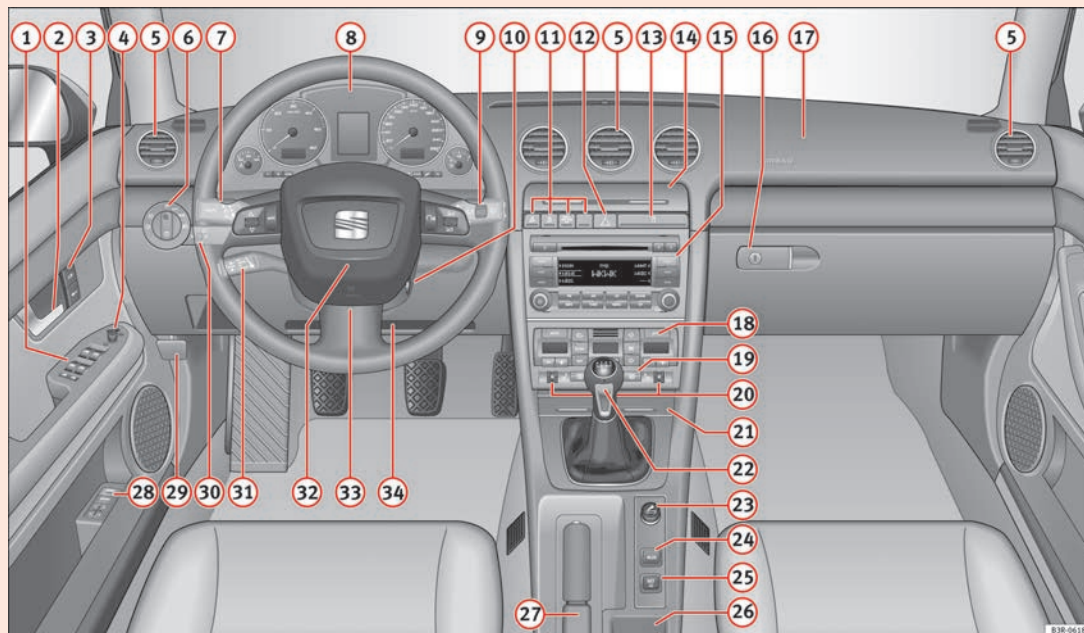

Fig. 36 Some of the equipment listed in this section is only fitted on certain models or are optional extras.
- The arrangement of switches and controls on right-hand drive models\* may be slightly different from the layout shown in ⇒ Fig. 36. However, the symbols used to identify the controls are the same. ■